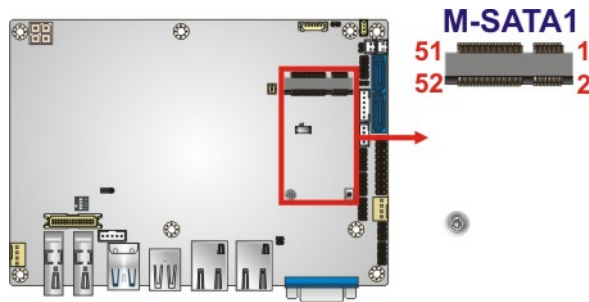

Figure 3-15: PCIe Mini Card Slot Location
- CN Location: See Figure 3-15